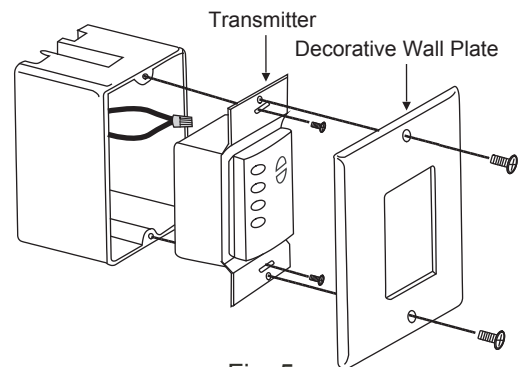

Fig. 5
- b. Remove the existing wall plate and the old switch from the wall outlet box. Wire nut the BLACK leads (hot) together and push back inside the outlet box. (Fig. 5)
- c. Carefully tuck the wire connections inside the outlet box. Use the screws provided to secure the wall transmitter and wall plate to the outlet box. (Fig. 5)